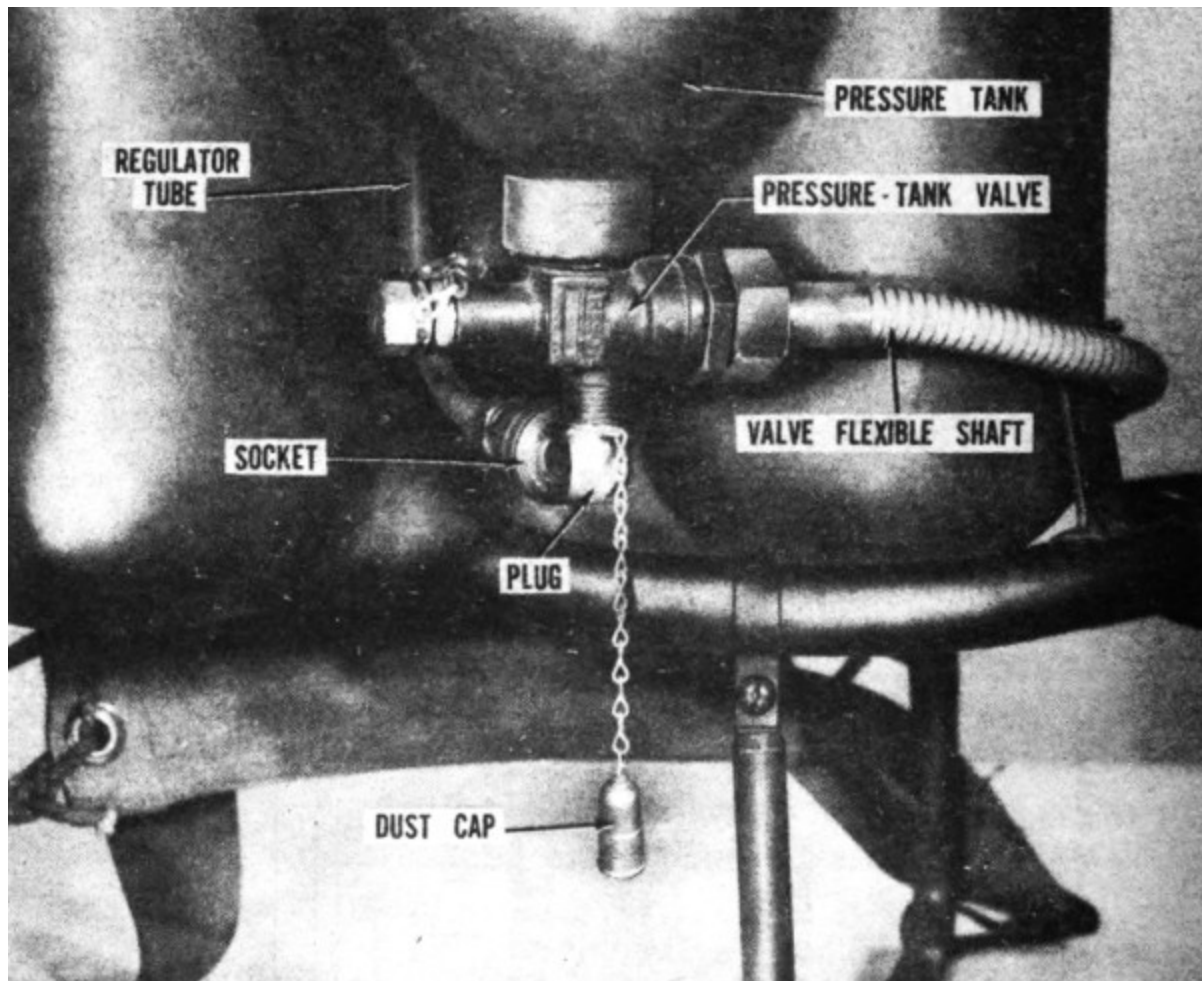

FIGURE 35.3. (Added.) Detachable pressure tank and valve assembly, connected to modified regulator tube assembly.
- 6 Caps, plug, B81-1-926 (with chain) (dust cap for plug). (See fig. 35.3.)
(1) Detachable pressure tank and valve assemblies (figs. 35.2 and 35.3) are used in modified flame throwers. They make it unnecessary to replace empty complete tank groups with filled and charged complete tank groups.
(2) Replacement of complete tank group, however, may be preferred when an extra supply of tank groups is available, or if thickened fuel is too stringy and viscous to pour.
(3) Detachable pressure tank and valve assemblies can be attached only to flame throwers which include sockets (figs. 35.2 and 35.3) and shortened regulator tubes. Flame throwers produced recently include this design modification.
(4) A plug and cap (fig. 35.3) on detachable pressure tank and valve assembly replace tube elbow (fig. 33) used on nondetachable pressure tank and valve assembly.